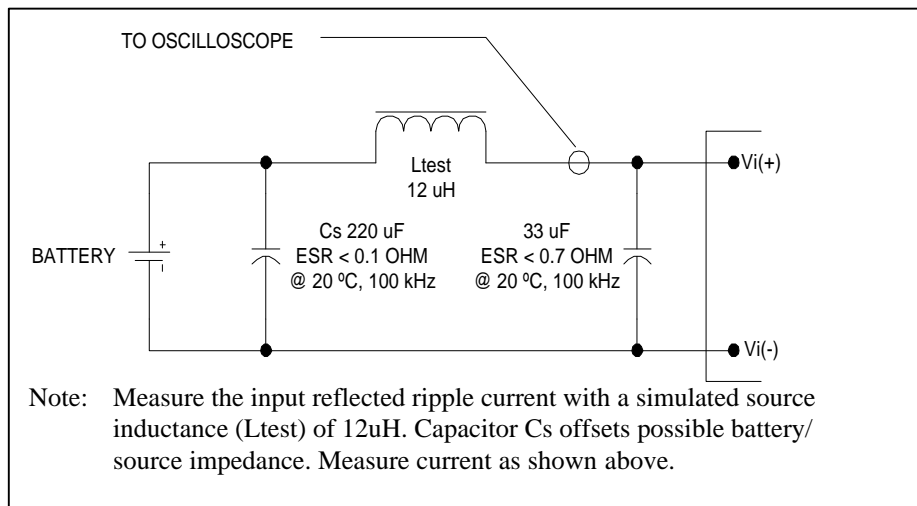

Figure 1. Input Reflected Ripple Current Measurement Setup.
3. See Figure 1 for Input Reflected Ripple Current Test Setup.